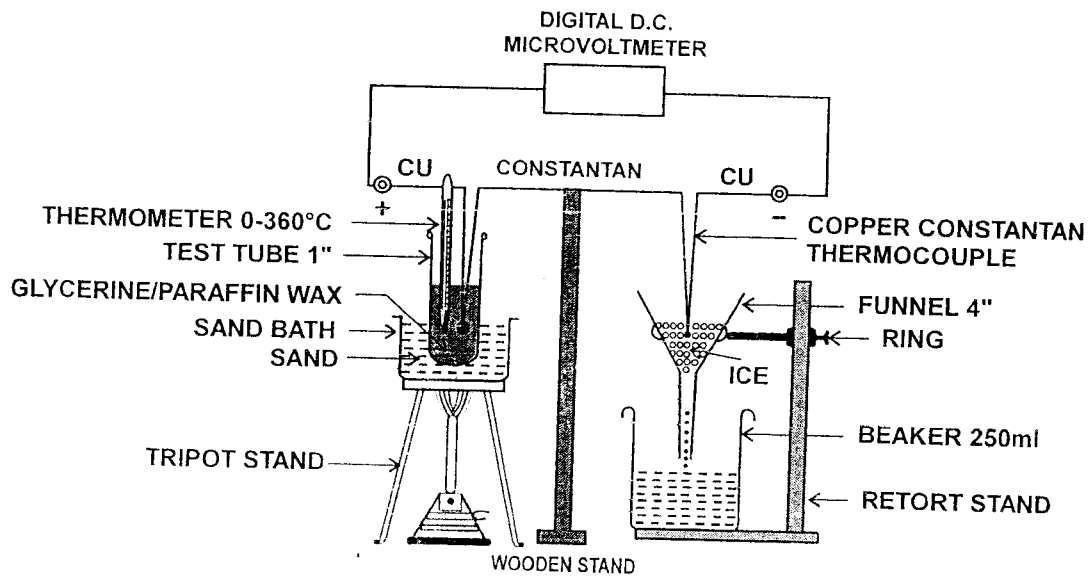

FIG. 3
1. Make the arrangement as shown in Fig. 3
3. Put one junction (-ve) of the copper constantan thermocouple in funnel full of ice & other junction (+ve) of thermocouple in test tube containing glycerin, put the test tube on sand bath thermometer in test tube. Further put partition cum wooden stand in the middle as shown in Fig. 3.